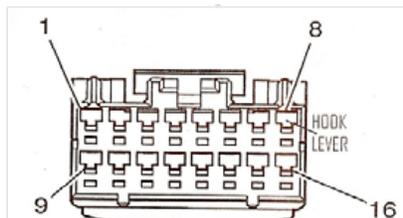

Figure 13: 16-pin Connector face
- b. Insert White terminal of Harness into Cavity 6 of the vehicle mirror harness connector and the Brown terminal into Cavity 7 (fig. 13). The terminals should click into place.